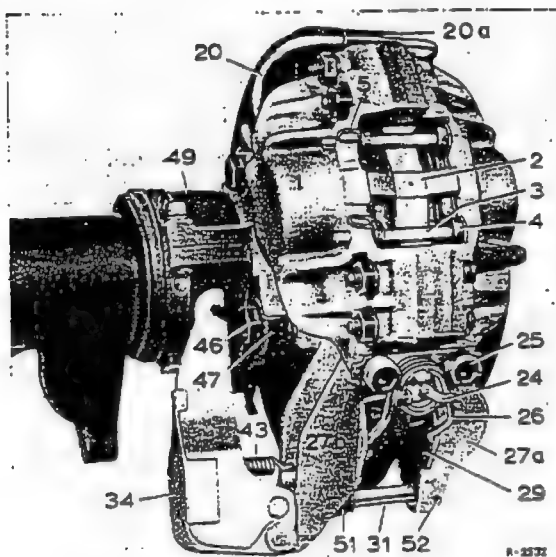

Fig. 42-7/23
3. Tap up the locking plates (47), unscrew the hexagon fitting screws (46), and remove the brackets (48) with the welded-on nuts (Figs. 42-7/23 and 42-7/24).
4. Remove the brake caliper (1) paying attention to the shims (2) arranged between the bearing housing (41) and the caliper (Fig. 42-7/25).